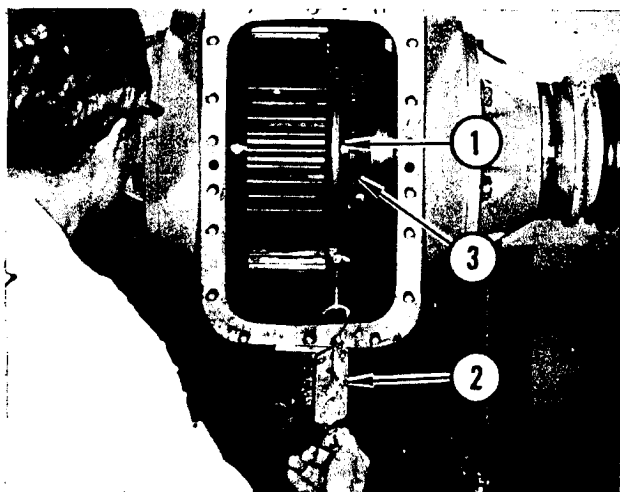

FIGURE 100. CHECKING BULL GEAR ROLLING TORQUE
6. Install axle carrier capscrews and lockwashers. Tighten to 275 ft. lbs. of torque. Refer to Figure 100. Wrap sash cord around bull gear hub (1) and pull on fish scale (2). Tighten or loosen adjusting nut (3) until a rolling torque of 18 to 25 lbs. pull is obtained. NOTE: Loosen bull pinion shaft bearing cage capscrews before adjusting bull gear bearing preload.